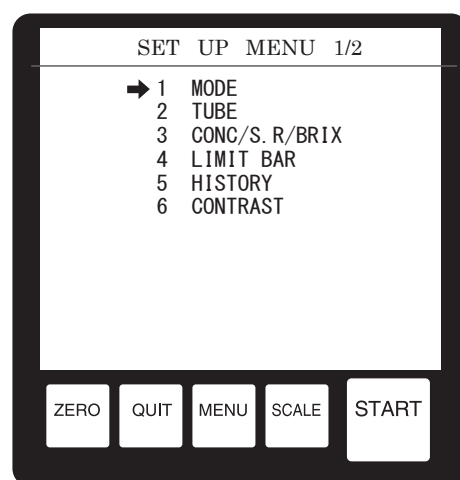

Fig.10-1
(2) How to set a mode
- Press the MENU key when a measurement value screen or the ZERO SET END screen is on the display panel. The screen shown in Fig.10-1 will be displayed on the display panel.